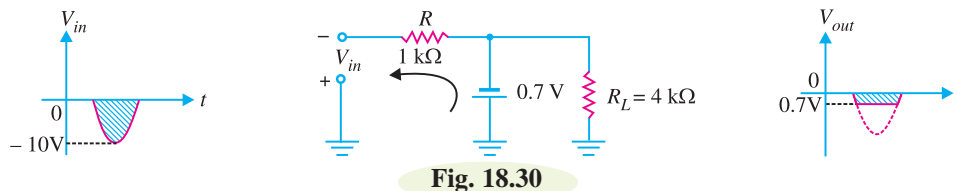

Fig. 18.30
**Solution.** During the negative half-cycle of input signal, the diode is forward biased. Therefore, diode can be replaced by its simplified equivalent circuit as shown in Fig. 18.30. Since load is connected in parallel with the diode,